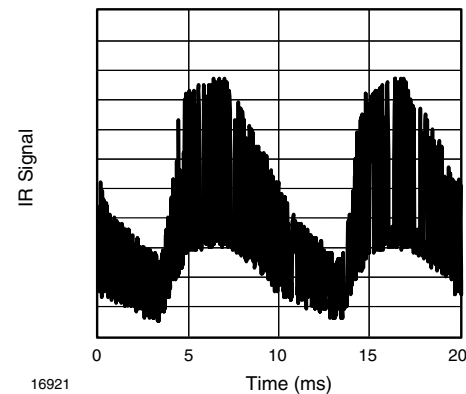

Fig. 14 - IR Disturbance from Fluorescent Lamp with High Modulation
- Modulated IR pattern from common fluorescent lamps (example of noise pattern is shown in fig. 14 or fig. 15)